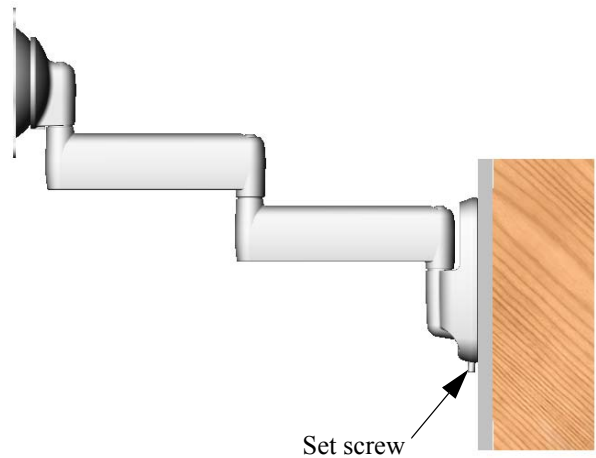

Figure 6. Tighten Setscrew to Secure
2. Using the 5/32" hex wrench (160), secure the MSP-SA to the wall bracket by tightening the set screw (see Figure 6).